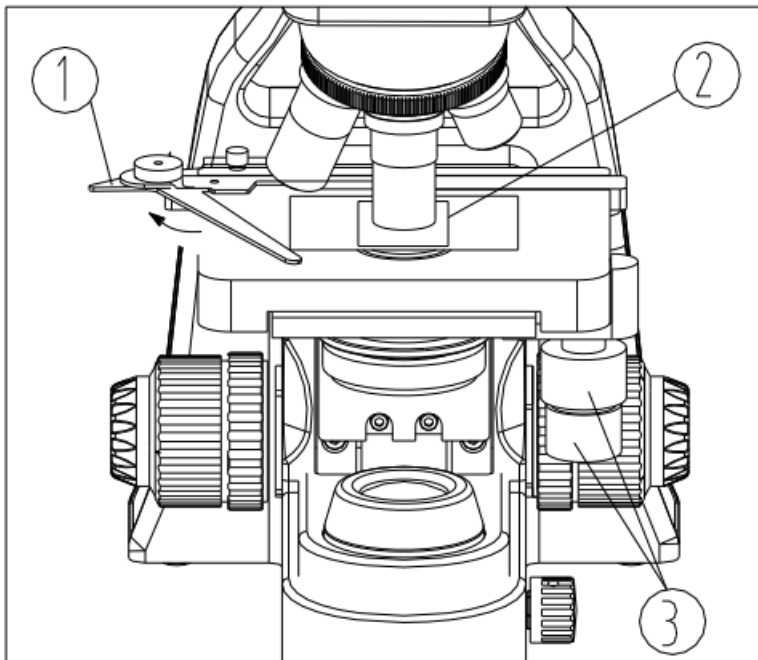

Fig. 15
1. Push the lever ① of the specimen holder backwards.
2. Place the slide on the stage with the cover glass ② facing upwards. Gently release the lever ① and allow the clip to slowly close onto the slide and clamp the slide firmly (**see Fig.15**).